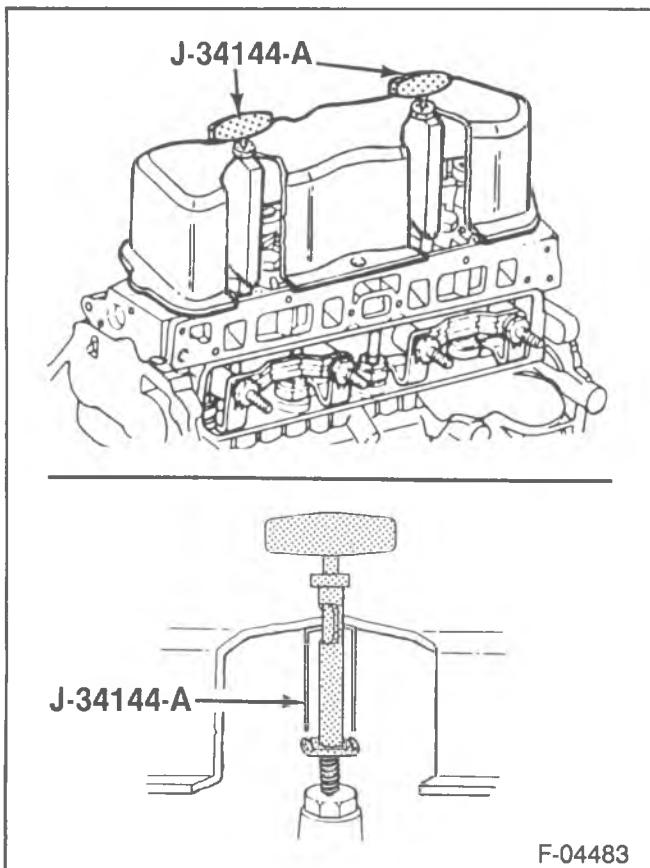

Figure 9—Removing the Rocker Arm Cover
2. Rocker arm cover. Use J-34144-A (figure 9).
3. Bolts (31), balls (32), rocker arms (33), pushrods (47) and pushrod guides (45).